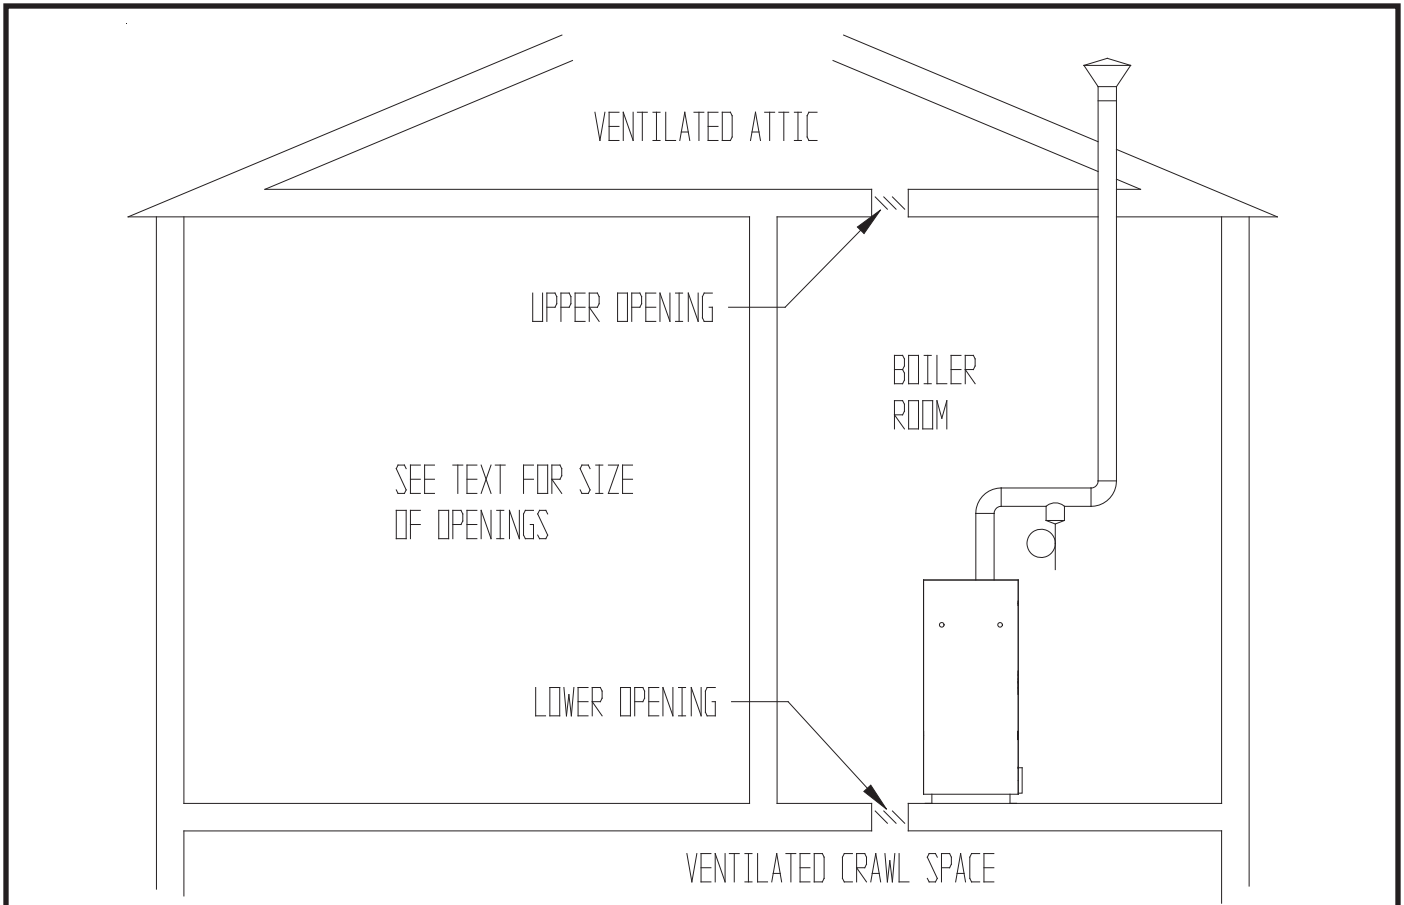
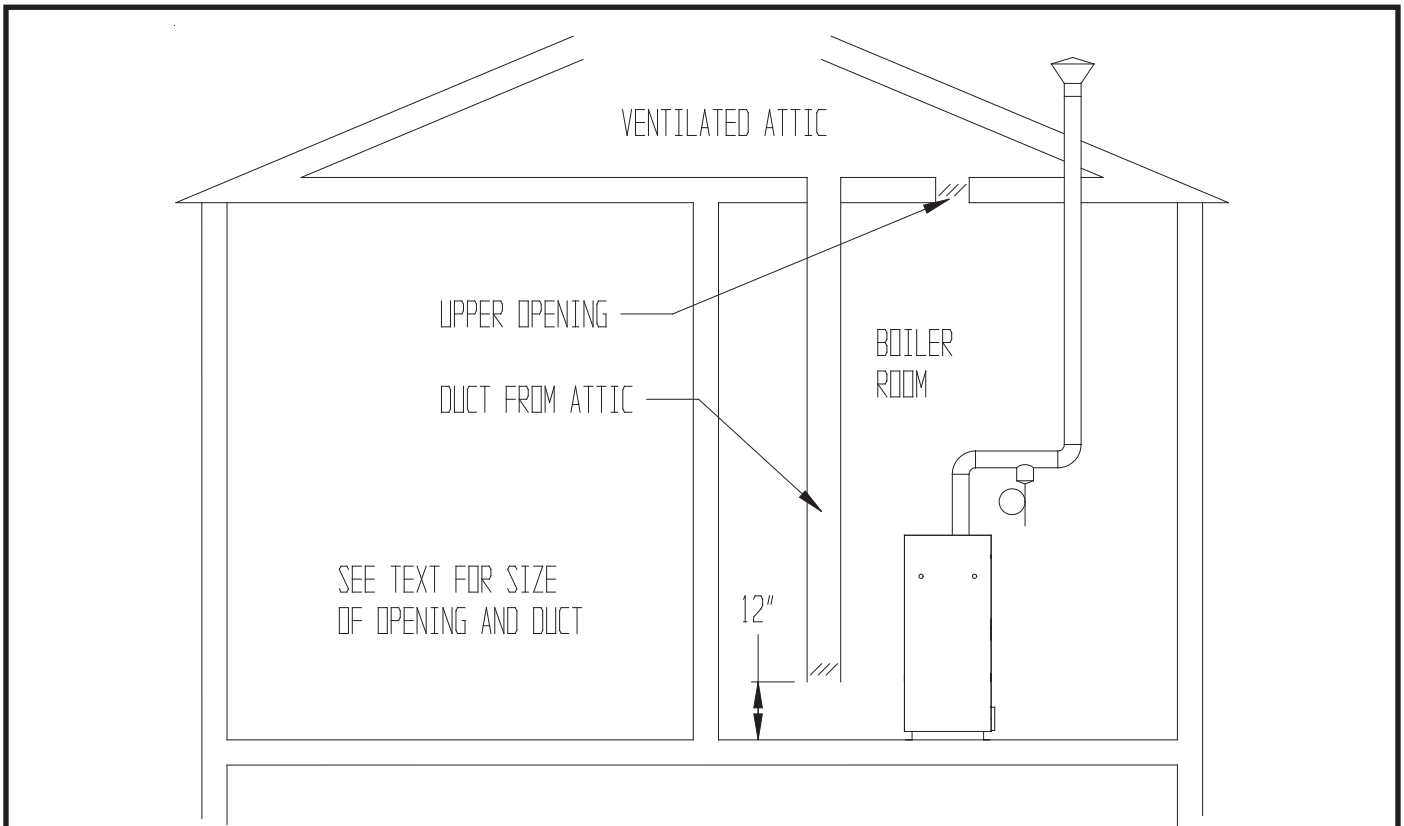
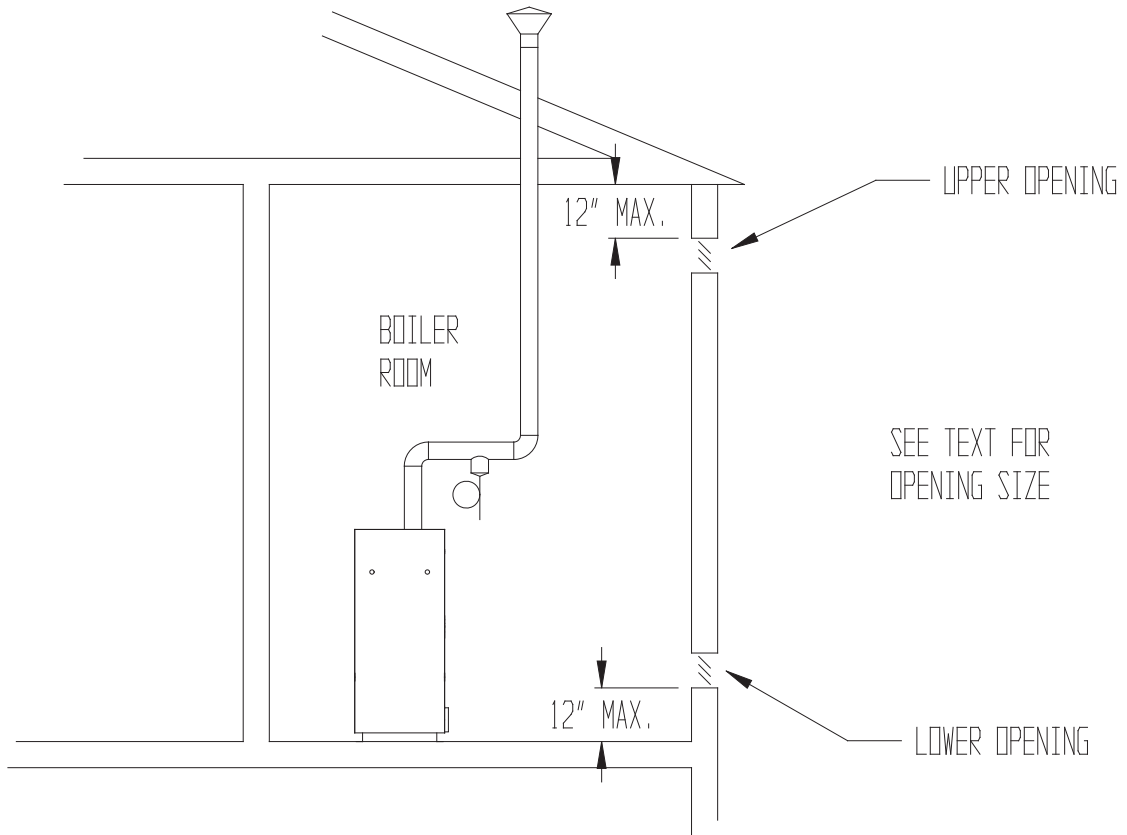

FIGURE 4: ALL AIR FROM OUTSIDE USING VENTILATED CRAWL SPACE AND ATTIC
FIGURE 5: ALL AIR FROM OUTSIDE USING VENTILATED ATTIC
FIGURE 6: ALL AIR FROM OUTSIDE USING OPENINGS INTO BOILER ROOM
- Vertical ducts or openings directly outdoors (Fig 4, Fig 5, Fig 6) – Each opening must have a free cross sectional area of 1 square inch per 4000 BTU/hr of the total input of all gas-fired appliances in the boiler room but not less than 100 square inches. Minimum opening size is 3 inches.